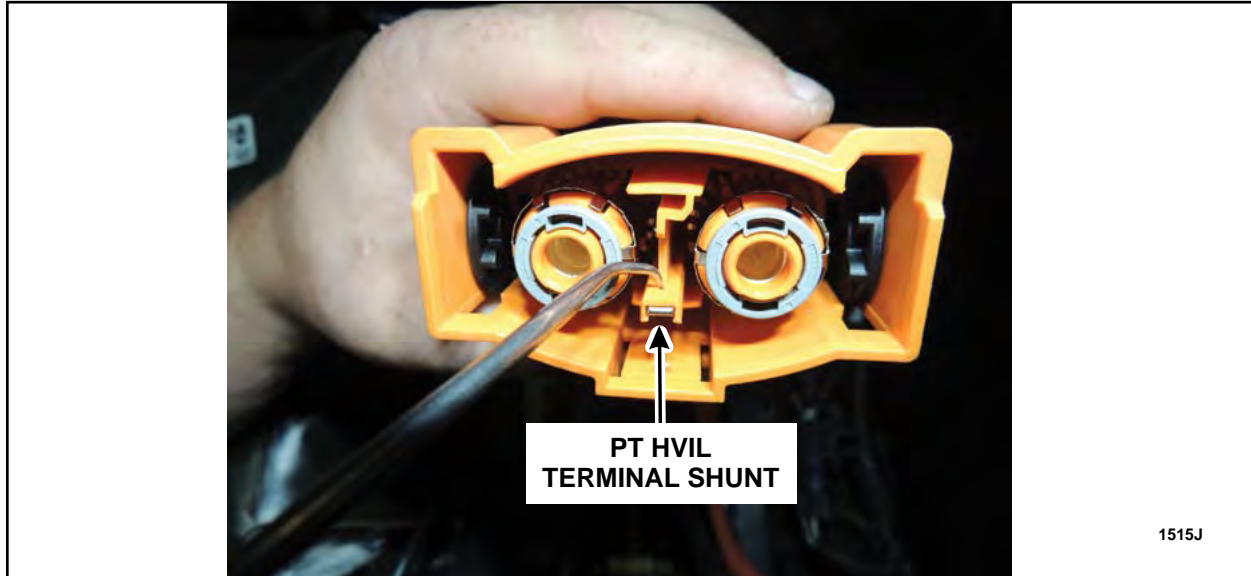

FIGURE 9
- Turn the TCM connector upside down and locate the Powertrain High Voltage Inter-Lock (PT HVIL) Terminal Shunt locking tab access hole. Using an angled pick, depress the tab while pulling the shunt out of the connector and discard the shunt. See Figure 9.